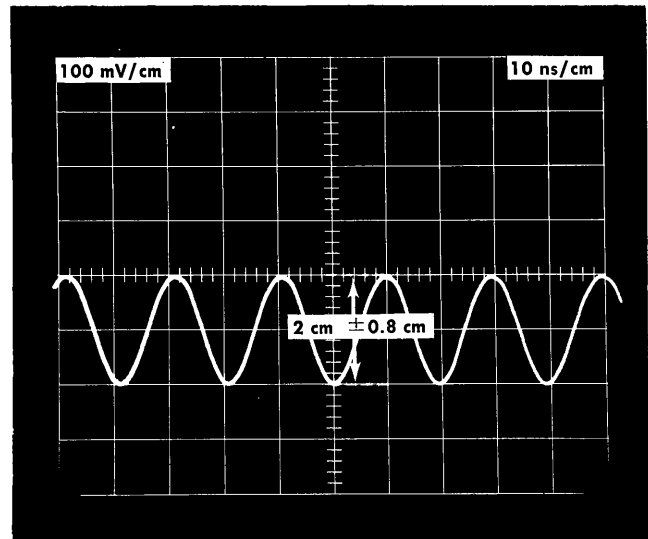

Fig. 6-22. Typical display for step 13 showing Sine Wave Trigger Output signal.
d. Check that the sine wave trigger amplitude is within $2\text{ cm} \pm 0.8\text{ cm}$, ($200\text{ mV} \pm 40\%$ peak to peak). See Fig. 6-22.